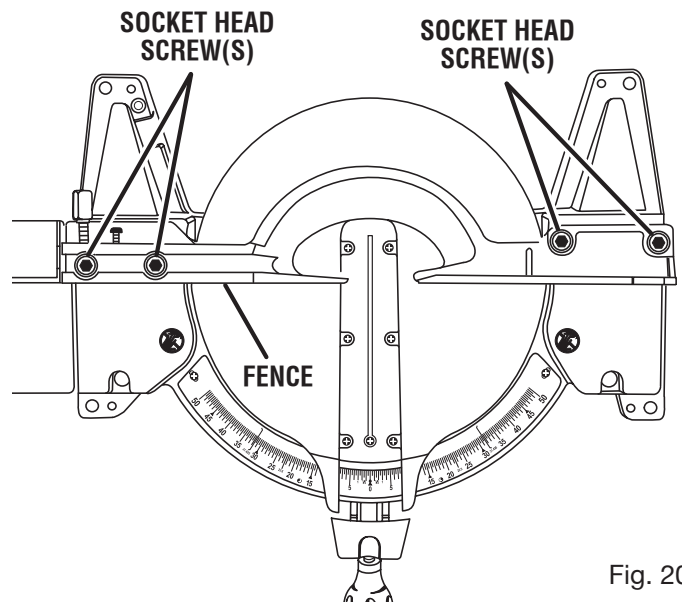

Fig. 20
See Figures 20 - 24
- Loosen the socket head screws that secure the miter fence to the miter table. *See Figure 20.*